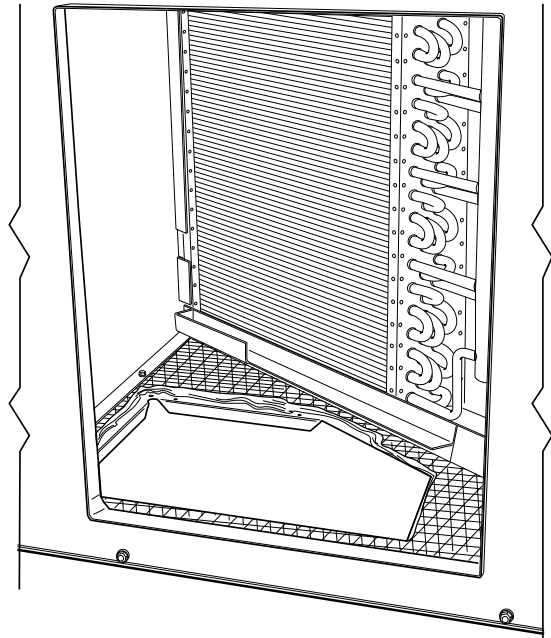

Fig. 18 — Vertical Duct Cover Removed
4. Using a straight edge and sharp knife, cut and remove the insulation around the perimeter of the cover. Remove and save 5 screws securing the cover to the basepan and slide out the cover. Discard the cover (Fig. 18).